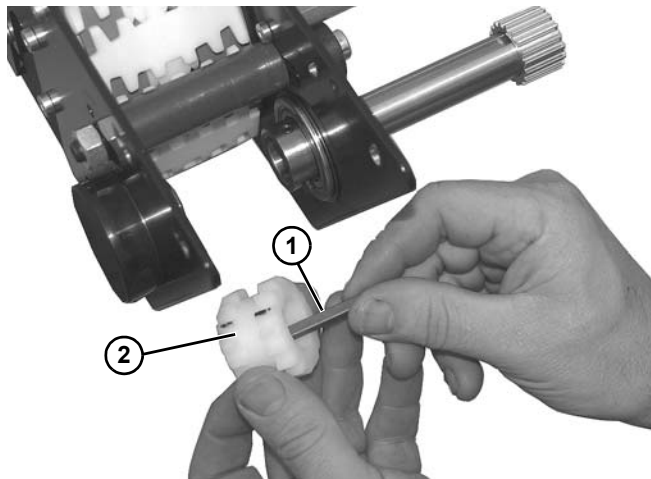

Figure 168
17. Remove key (**Figure 168, item 1**) from sprocket (**Figure 168, item 2**).